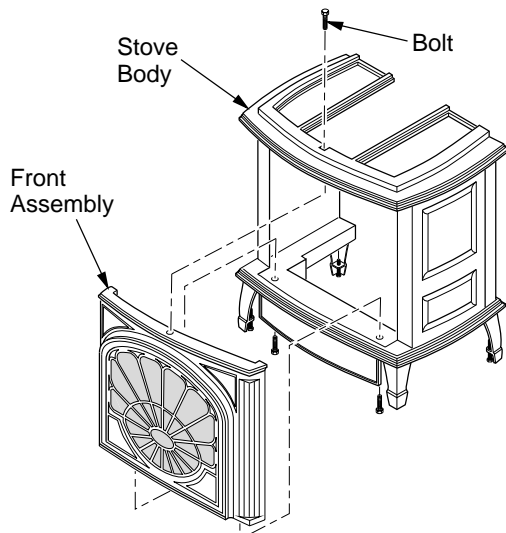

Figure 13 - Removing Front Assembly
14. Remove 2 bolts from bottom of stove and discard. Remove bolt from the top of the stove to remove the front panel assembly (see Figure 13, page 7).